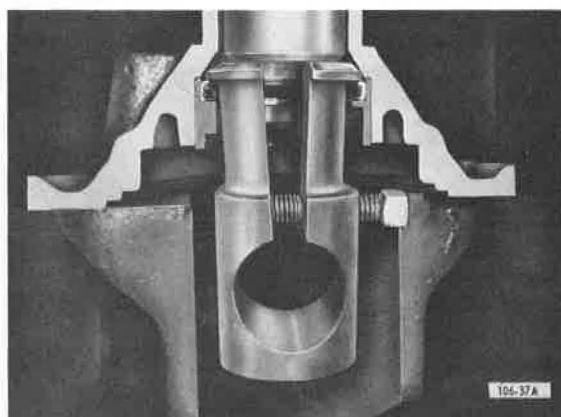

Figure 5-299. Pressing Sleeve and Seal Out of Cover
2. Place assembly in a press, and press seal and pump sleeve out of housing. See Figure 5-299.